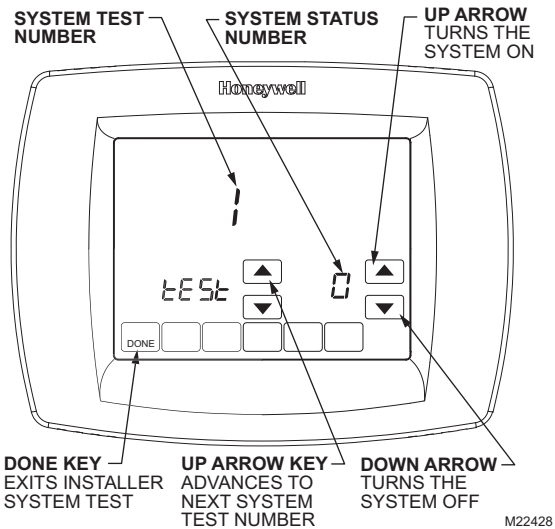

Fig. 30. Review thermostat buttons used during Installer System Test.
- 3. See Fig. 30 to review how the thermostat buttons are used during the Installer System Test. See Table 6 for available Installer System Tests.